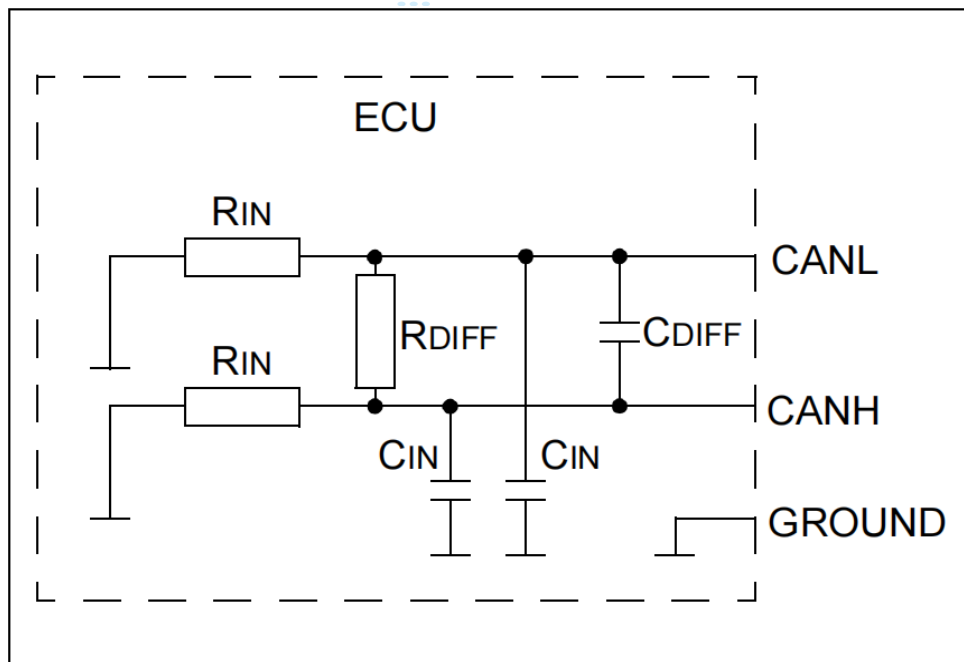

FIGURE 1: PHYSICAL LAYER DEFINITIONS
**DIFFERENTIAL INTERNAL CAPACITANCE,  $C_{DIFF}$  (OF A CAN NODE)** Capacitance seen between CANL and CANH during the Recessive state when the CAN node is disconnected from the bus (see Figure 1).
**DIFFERENTIAL INTERNAL RESISTANCE,  $R_{DIFF}$  (OF A CAN NODE)** : Resistance seen between CANL and CANH during the Recessive state when the CAN node is disconnected from the bus (see Figure 1).
**INTERNAL CAPACITANCE,  $C_{IN}$  (OF A CAN NODE)** : Capacitance seen between CANL (or CANH) and ground during the Recessive state when the CAN node is disconnected from the bus (see Figure 1).
**INTERNAL RESISTANCE,  $R_{IN}$  (OF A CAN NODE)** : Resistance seen between CANL (or CANH) and ground during the Recessive state when the CAN node is disconnected from the bus (see Figure 1).